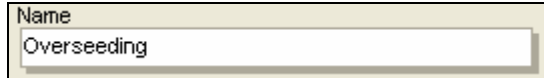

Figure 17.2.2
1. Click on the **Name** box and type in a new name that might better describe the use for the Manual Program. (Example: Overseeding) (Figure 17.2.2).